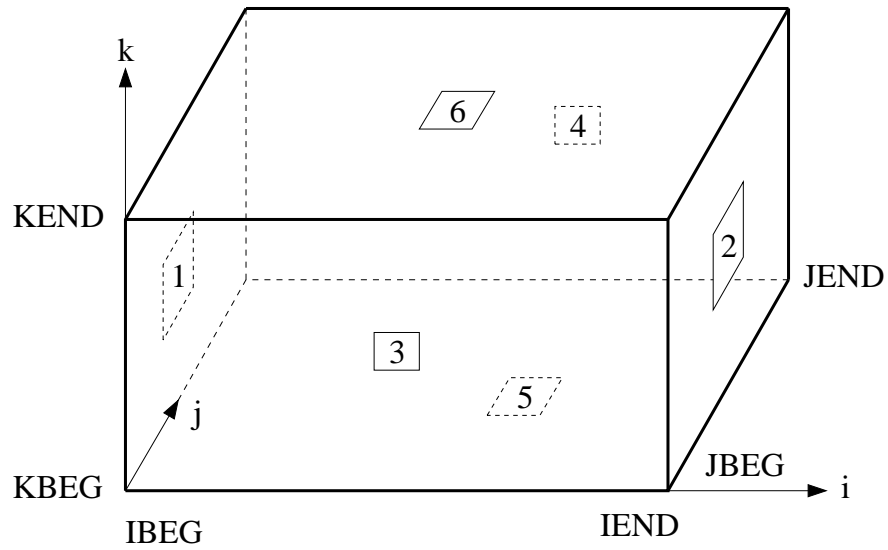

Figure 4.1: Numbering of the sides of the computational space and of the block boundaries.
2. number of the block face (see Fig. 4.1)
8. face number of the source block (see Fig. 4.1)